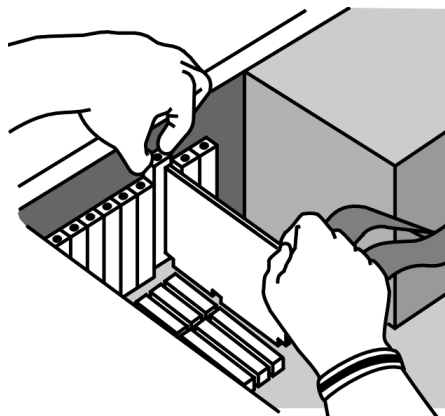

Figure 1-4 Installing the PCI-MXI-2 Interface Card
- 6 Insert the PCI - MIX-2 interface card edge connector into the expansion slot connector of the computer. Make sure the interface is fully seated by pushing firmly on the edge of the card with the palm of your hand. See Figure 1-4.